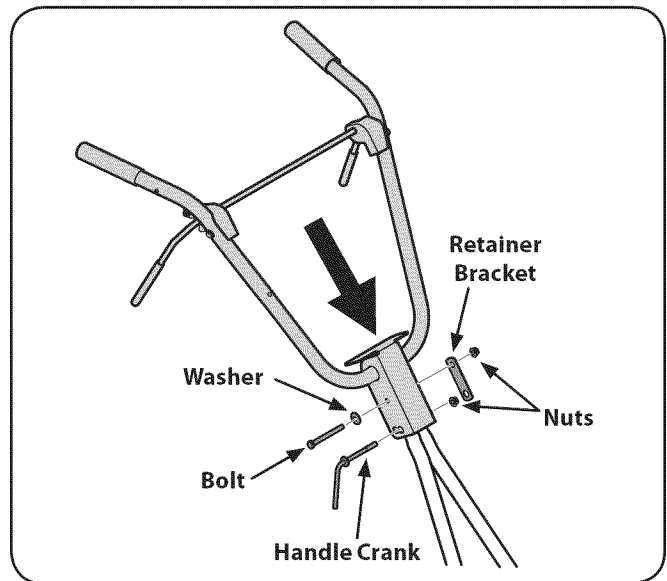

Figure 3-2
2. Position the upper handle onto the lower handle. See Fig. 3-2. Align the holes on the lower handle with the holes on the upper handle.
3. Insert the handle crank through the lower hole on the handle and secure with the nut removed in step 1. See Fig. 3-2.
4. Insert the bolt and washer through the hole in the handle and secure with the retainer bracket and then the upper nut removed in step 1. See Fig.3-2.